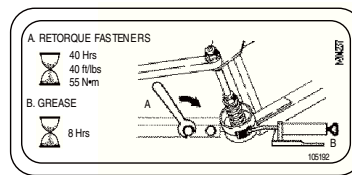

Fig. 34
3. With the two clutches opened up, stick the nozzle of grease gun into the clutch and apply a generous amount of grease. This should be done every 8 hours. (Refer to fig. 34)